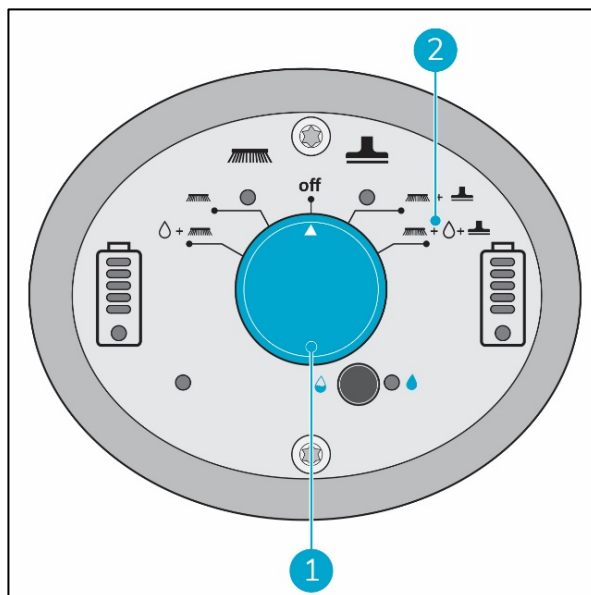

Figure 22
2. Use the i-mop® XXL basic main switch (Figure 22, pos 1) and choose MODE 4 Brush + Water/Cleaning solution + Dry vacuum (Figure 22, pos 2).